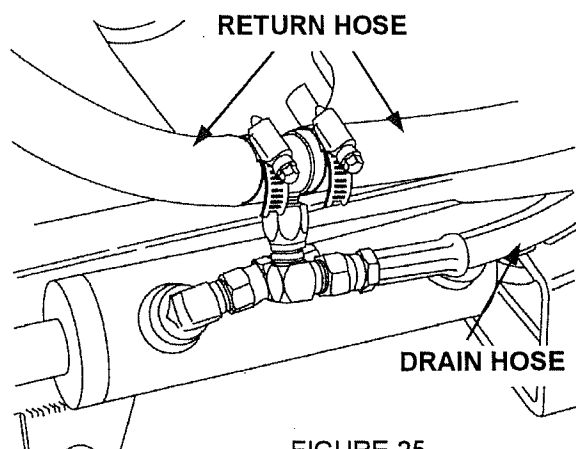

FIGURE 25
1. See figure 25) The loader hydraulic return hose must be cut approximately 9" from the oil filter. To minimize oil loss, use two long nose vise grips and clamp the hose on both sides of cut.